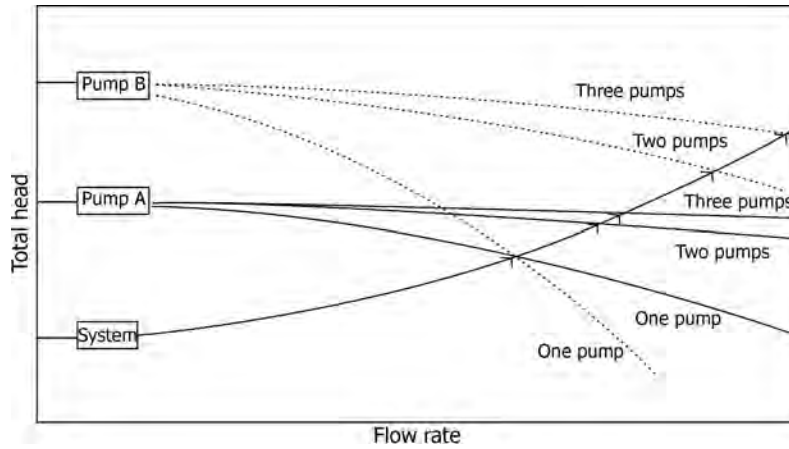

FIGURE 5.19 Performance curves for centrifugal pumps operating in parallel. (Courtesy: GPSA Engineering Data Book, 12th ed.)
- Figures 5.19 and 5.20 show centrifugal pump performance curves for parallel and series operations.